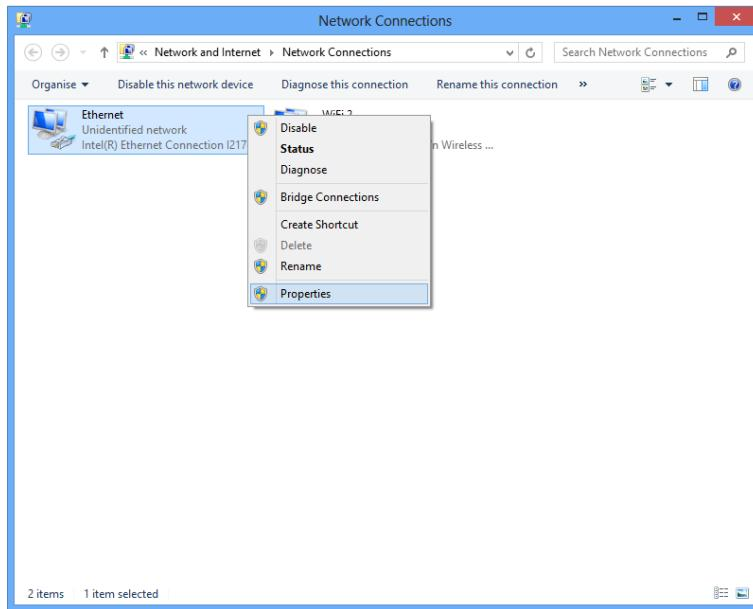

Fig. 5.8: Network Connections window
3. Right-click on the Ethernet icon and select "Properties" (Fig. 5.8).